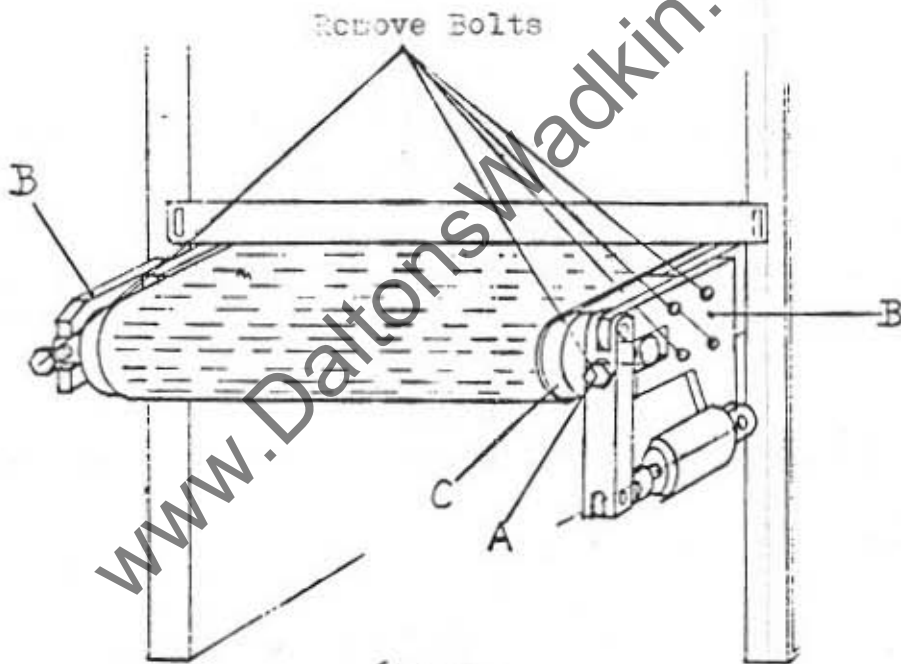

fig: 2
- C. Remove safety guard (fig.1-1) and unscrew conveyor tension bolts (fig.2-A & B).